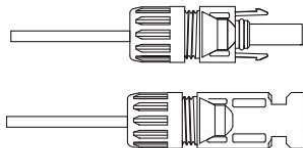

Figure 2.14 Stylus inserted into the top of the connector
3.Insert the stylus into the top of the connector and screw the cover nut to the top of the connector. figure 2.14 .